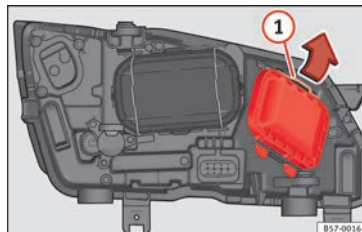

Fig. 104 In the engine compartment: remove the lid.
2. Move the loop »» Fig. 104 (1) in the direction of the arrow and remove the cover.